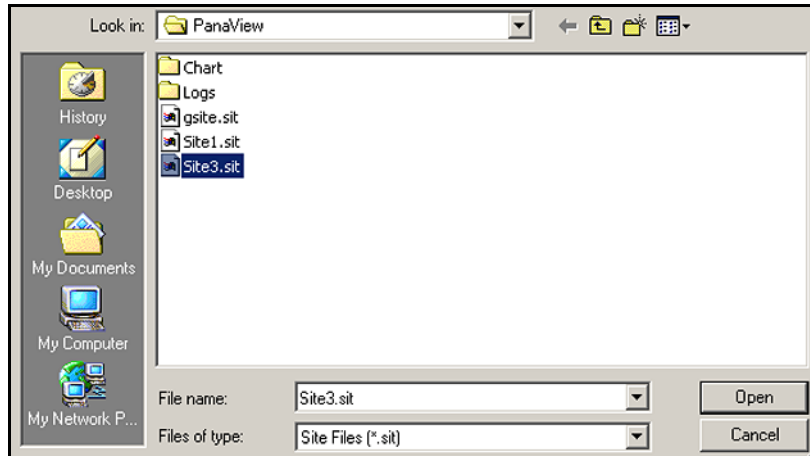

Figure 31: Site File Selection
2. Click on the *Save Site to Meter* button to open a screen similar to *Figure 31* below.
3. The *Site File Selection* screen (see *Figure 31* above) opens. Highlight a site file with the desired settings, and click [Open]. *PanaView* saves the site file in the meter with the new name and the desired settings.
3. A *Site File Selection* screen similar to *Figure 31 on page 112* opens. Enter the desired site file name (now with a .prt suffix) and click [Save]. *PanaView* displays a text version of the site, as shown in *Figure 33* below.